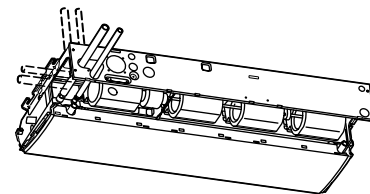

Fig. 3-51
- The positions of the refrigerant tubing connections are shown in the figure below. (The tubing can be routed in 3 directions.) (Fig. 3-51)
* If the drain hose is routed through the left side, refer to Fig. 3-51, and follow the procedure above to install the hose. Reattach the rubber stopper removed earlier onto the right side. The rubber stopper can be inserted easily by using a screwdriver or similar tool to press the stopper into the drain port on the main unit. Press the stopper into the main unit drain port as far as it will go.